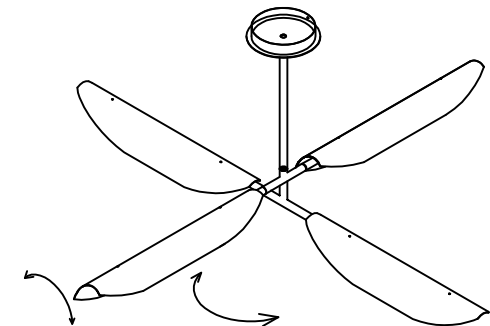

Fig.6
10. Adjust to desired angle (Fig.6)